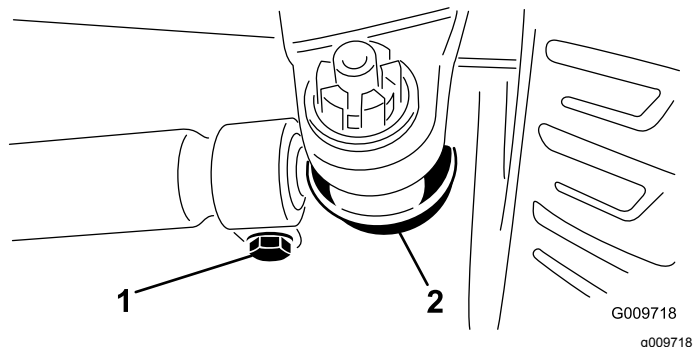

Figure 110
3. To adjust, remove the cotter pin and nut from either tie rod ball joint (Figure 110). Remove the tie-rod ball joint from the axle-case support.
4. Loosen the clamps at both ends of the tie rods (Figure 110).